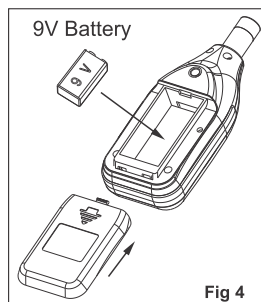

Fig 4
3. When the battery life is low, "E" appears on the display. Replace with a new 9V battery. (Fig 4)